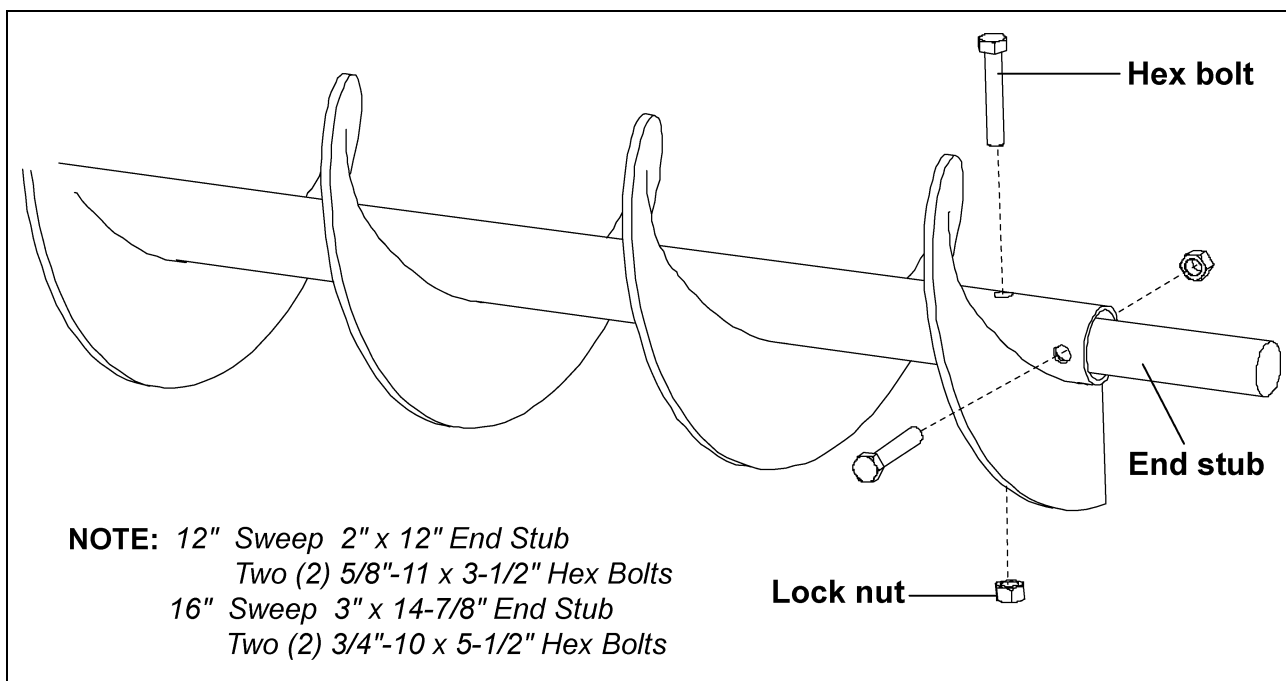

Figure 5D
- C. Slide the end stub through the bearing plate on the tail section and into the tail flight securing it with hex bolts and lock nuts. (See Figure 5D.)